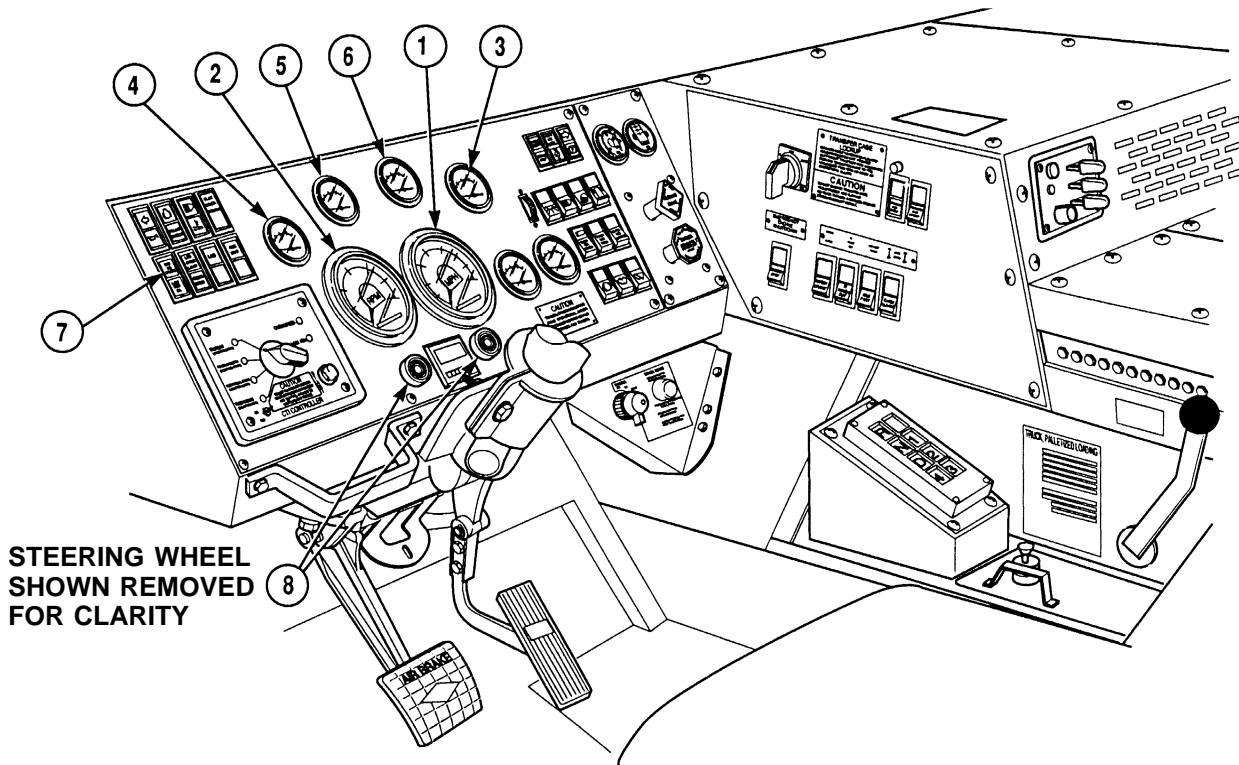

**Figure 1-14. Blackout Lighting System**
**d. Blackout Lighting.** The blackout lighting system (Figure 1-14) includes the front blackout marker lights (1), rear blackout marker lights (2), blackout stop lights (3) and panel lights. These are energized by turning on the blackout light selector switch and either the blackout marker switch or the blackout drive switch. The blackout stop lights and the panel lights are then controlled by other switches located in the cab.